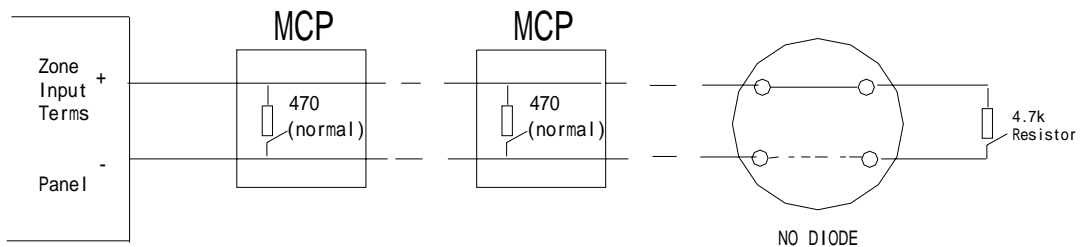

Fig.5.4.2a
- (1) In the loop, all manual call points are connected in front of the detectors and a 4.7k resistor should be connected at the end of the loop (Fig.5.4.2a).